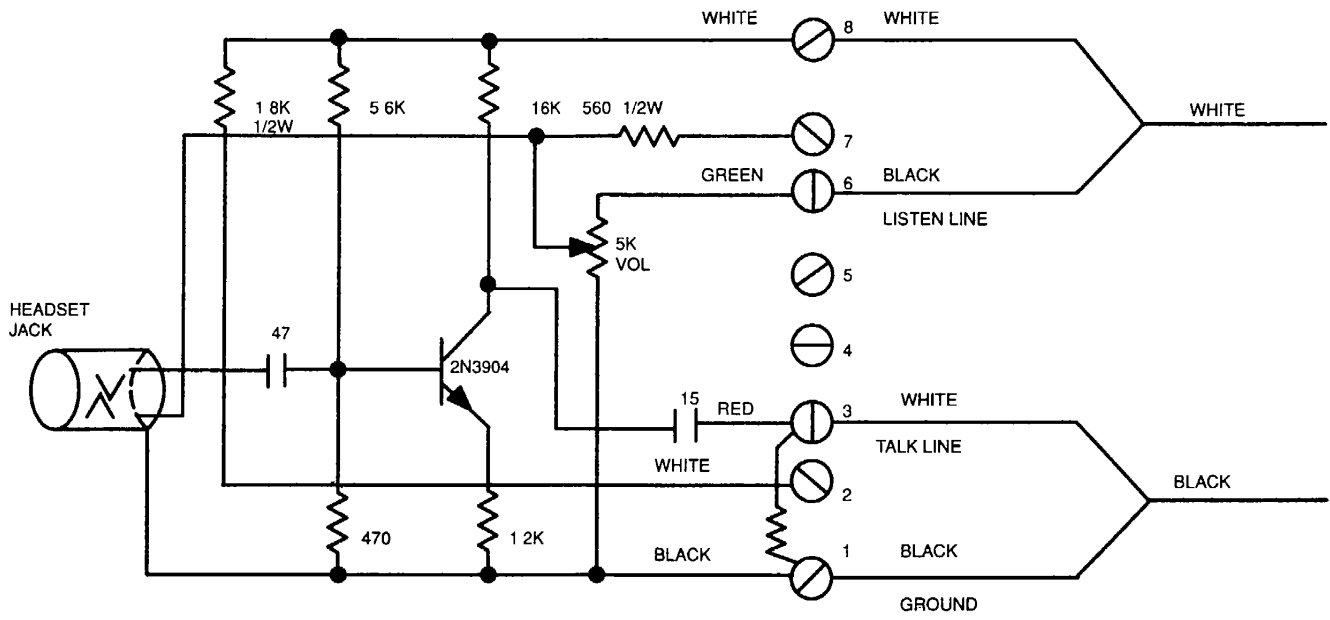

Figure 4-10 . Schematic Diagram, Model M3141, Headset Station
- (4) Install new power amplifier in power amplifier enclosure
- (5) Reconnect all tagged wires to terminal board.
- (6) Install cover and attach with four mounting screws.
- a. With 24 Vdc circuit breaker 3P14 closed (ON), check that power amplifier is properly operating per telephone power control module and power amplifier operation.
- e. Disconnect and tag wires from power amplifier terminals 1, 3, 6, and 8. Tag and disconnect wires from headset terminals 1, 3, 6, and 8 (see Figure 4-10).
- c. Tag and disconnect wires from headset station (see Figure 4-10).
- a. Close (ON) circuit breaker 10P13A7.